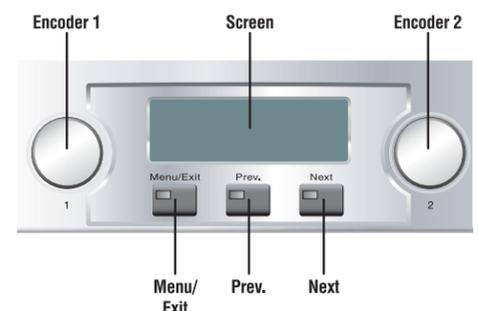

Figure 3
4. Turn down your mixer master faders. Plug the power cord into the amplifier and then into a grounded AC outlet. **The amplifier must be plugged into a grounded AC outlet.** Turn on the front-panel power switch. The LCD Control Screen will light up (Figure 3).
6. Play a program through your mixer. Set its level to peak at 0 dB or 0 VU maximum on the mixer meters. Gradually turn up (CW) the amplifier Encoder knobs (Level controls) to the desired volume.
7. If the SPL is too high, press **Menu/Exit**, then press **Next** until you see ADVANCED MENU. Push an Encoder knob. Press **Next** until you see MAXIMUM ANALOG INPUT. Press an Encoder knob so the display reads 21 dBu. Press **Menu/Exit** twice. Press **Next**. CH1 Sensitivity will be displayed. Gradually turn up (CW) the Encoder knobs to the desired volume. Press **Exit** when done.
2. Turn on the amplifier power switch on the front panel. The LCD Control Screen will light up (Figure 3).
8. Turn down your mixer master faders. Plug the power cord into the amplifier and then into a grounded AC outlet. **The amplifier must be plugged into a grounded AC outlet.** Turn on the front-panel power switch. The LCD Control Screen will light up (Figure 3).
10. Play a program through your mixer. Set its level to peak at 0 dB or 0 VU maximum on the mixer meters. Gradually turn up (CW) the Encoder knobs to the desired volume.